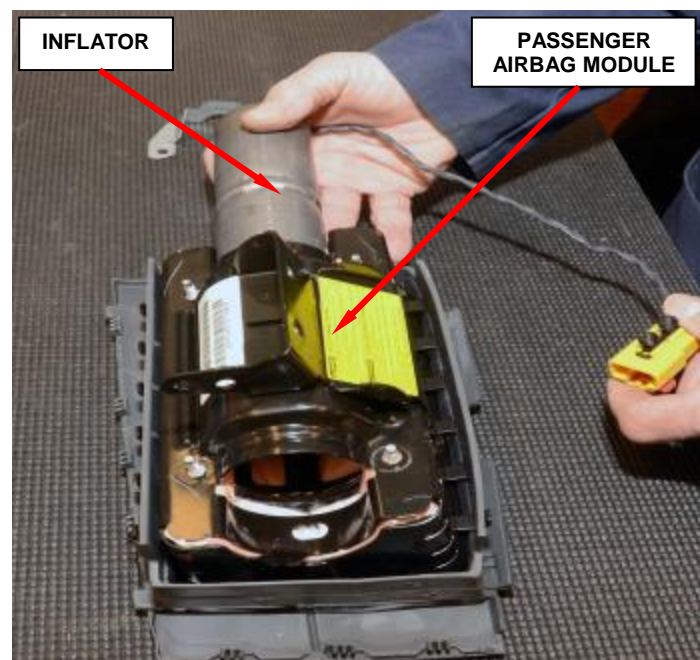

Figure 83 – Inflator Removal
f. Slide the inflator out of the passenger airbag module (Figure 83).